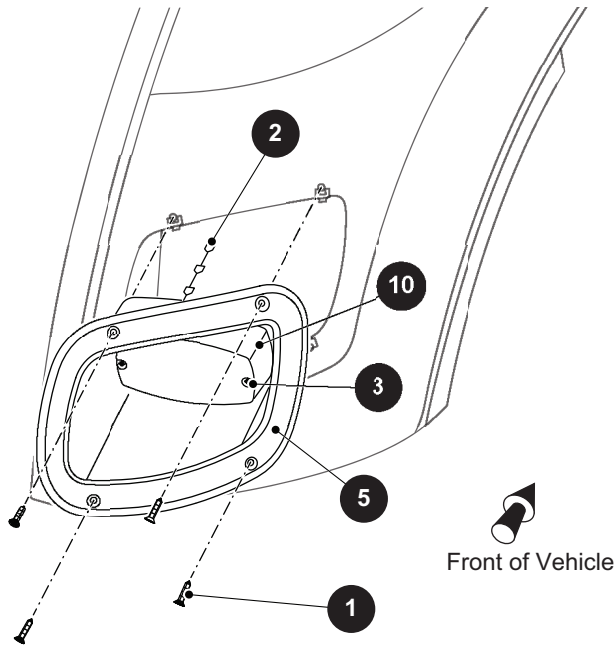

Fig. 7 Tail Light
2. To replace the bulb only, remove the screws (3) securing the lens cap (10) (Ref Fig. 7).
3. To remove the entire taillight assembly, remove the screws (1) securing the assembly to the rear body.
4. Disconnect the push on connectors (2) from the main harness.